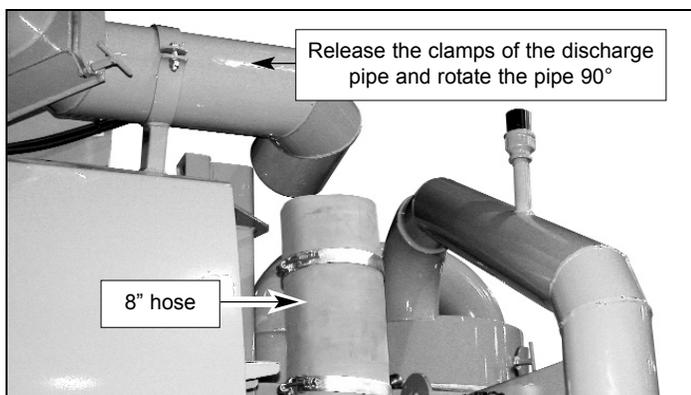

Fig. 20
- 3.6. Connect the discharge pipe of the spreader to the U-pipe using the 8" hose - *fig. 20*.